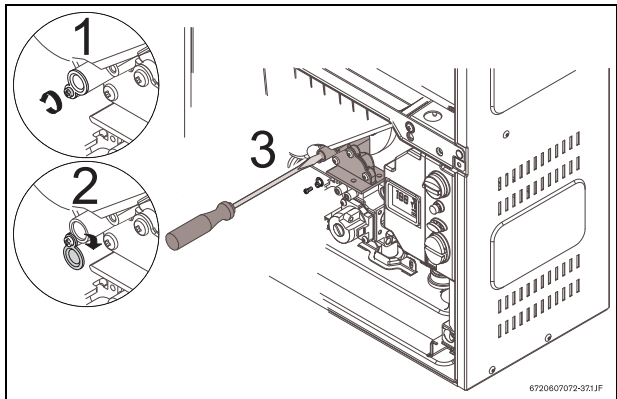

Fig. 7
- ▶ Loosen yellow painted Philips screw (1) and rotate cover down (2) revealing a brass slotted screw. Fig. 7.